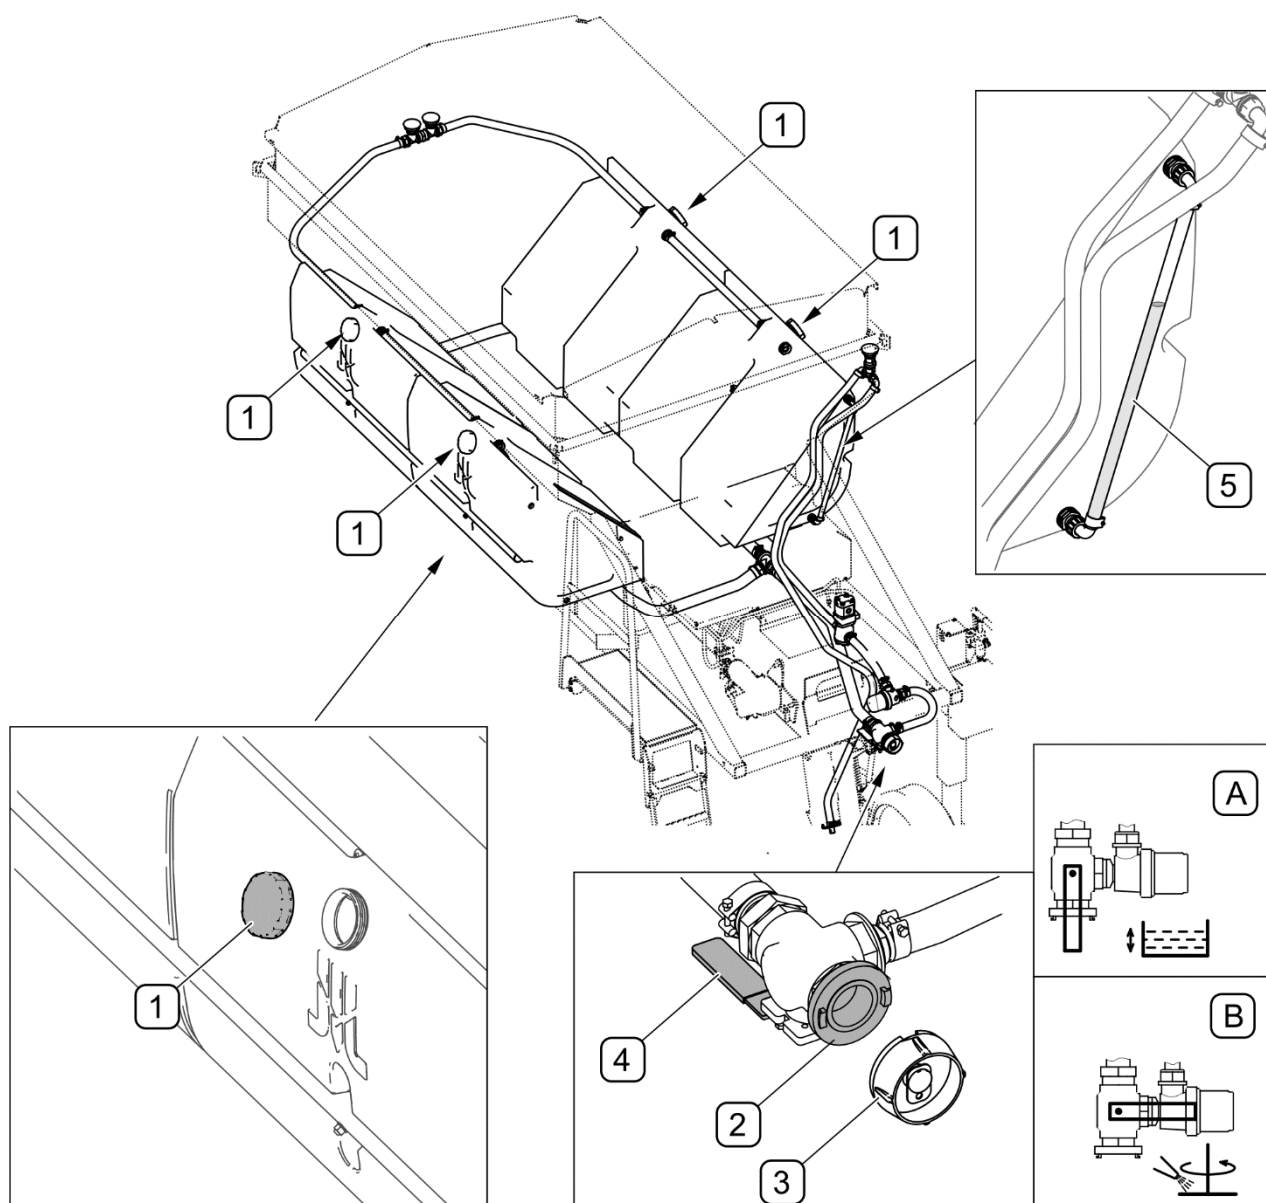

FIG. 4.17 Filling the tank with brine
The tanks can be filled with brine (FIG. 4.17) through tank openings secured with plugs (1) or through STORZ 52C connection (2) secured with a plug (3).